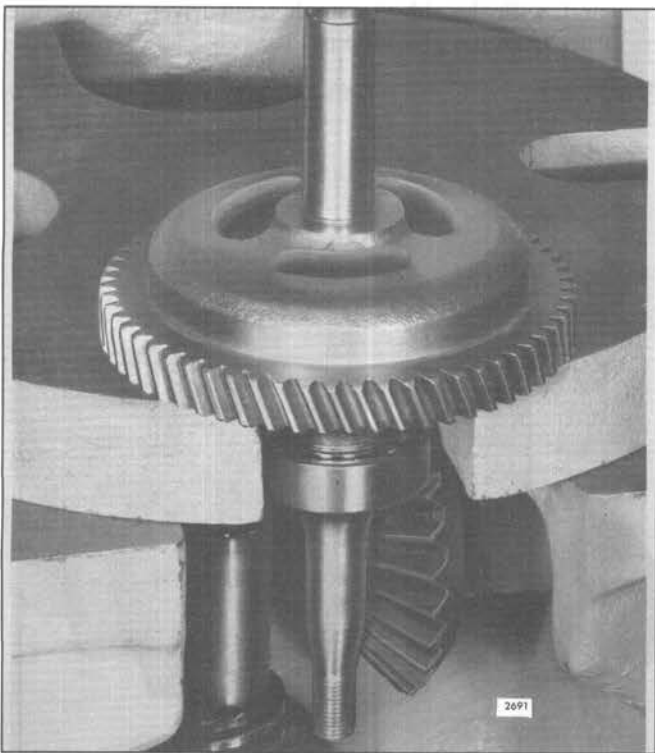

Fig. 11 - Pressing Shaft Out of Gear
6. Place the gear on the bed of an arbor press with the shaft extending downward, then place a short piece of .625" diameter bar stock between the shaft and the ram of the press and press the shaft out of the gear (Fig. 11).
7. Place the gear on the bed of an arbor press with the shaft extending downward. Then, place a short piece of .625" diameter bar stock between the shaft and the ram of the press and press the shaft out of the gear (Fig. 11).